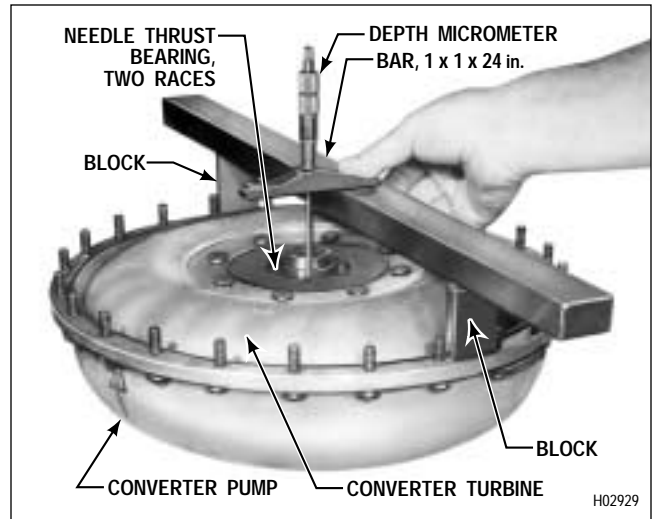

Figure 6-16. Measuring Dimension D for Selection of Converter Spacer (AT 543)
(23) Measure the distance (Figure 6-16) from the top of the bar to the front bearing race installed in Step (19). Record this Dimension as **D**.